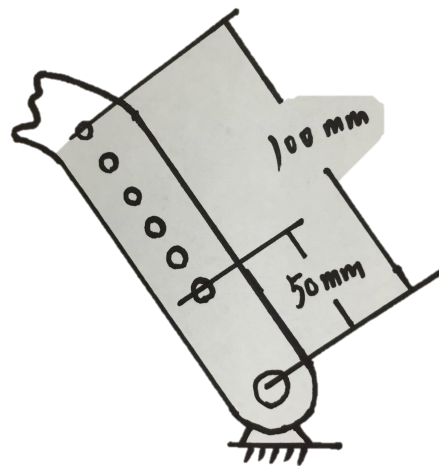

Figure 4: The length of link 2 can be adjusted by drilling a hole at different positions.
It should be noted that, although Eqn. (10) shows that r_{in} is fixed, the length of link 2 can still vary from 50 to 100 mm depending on which hole position is used (Figure 4).